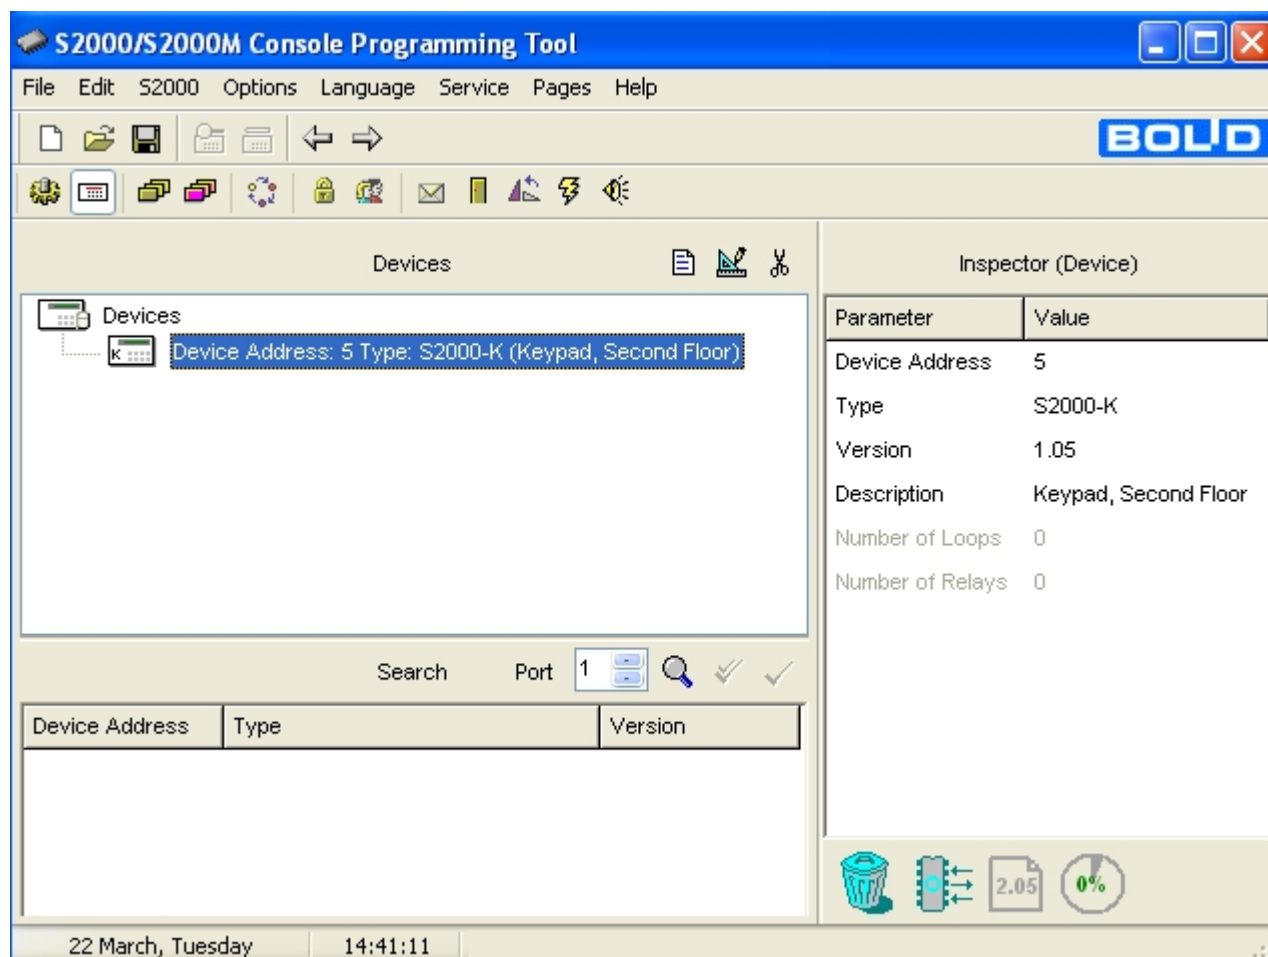

Figure 4
2. Add the S2000-K descriptor to the device tree by dragging them from the *Search* window and dropping on the *Devices* window (see Figure 4). If necessary, assign the keypad to a textual description or revise its other parameters in the *Inspector (Device)* window.